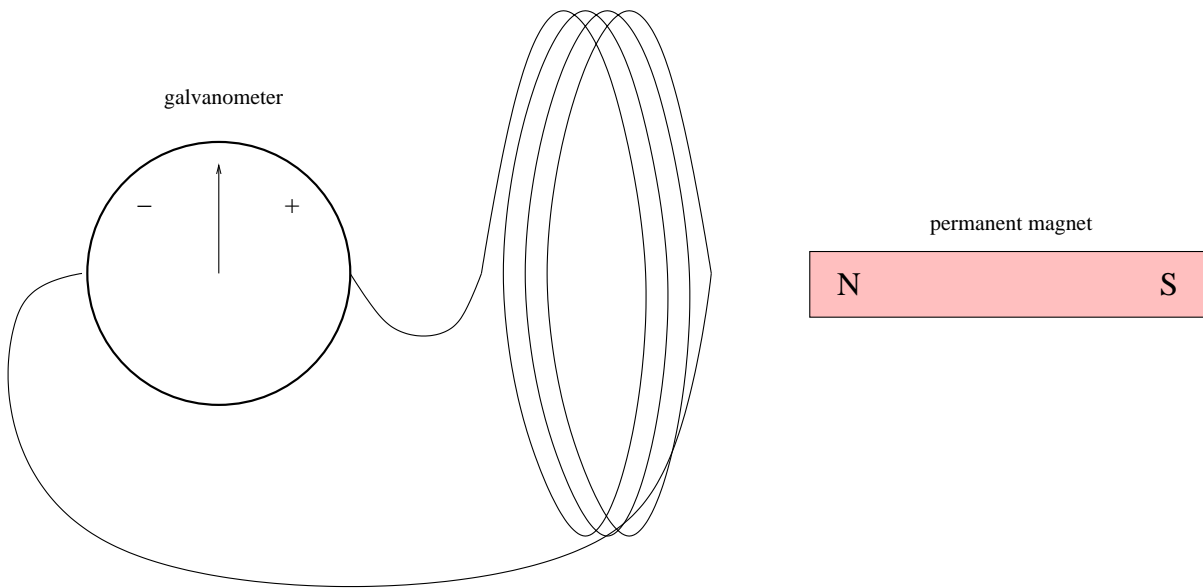

FIGURE 2
3. Connect the coil and galvanometer as shown in Figure 2 below. Sketch roughly your circuit, paying close attention to the way the coil is wound. Hold the magnet stationary near the coil; record the deflection of the galvanometer needle. Move the North pole of the magnet toward the coil; record the deflection of the galvanometer needle. Move the North pole of the magnet away from the coil; record the deflection of the galvanometer needle. In your analysis, roughly sketch the situation in each case: redraw your circuit and indicate the direction of current flow (if any), and the direction of the external magnetic field. Explain the direction of current flow in terms of Faraday's and Lenz's Laws, remembering that the magnetic field lines point away from the North pole of a magnet. How does the magnitude of the galvanometer needle deflection depend on the speed at which you move the magnet? What happens to the direction of the needle deflection when you turn the magnet around (swapping North and South poles)? Try it!